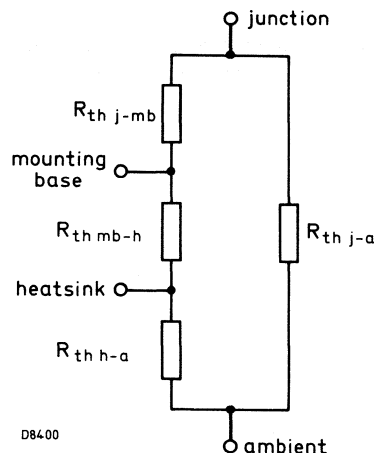

Fig.3.
- The various components of junction temperature rise above ambient are illustrated in Fig.3.